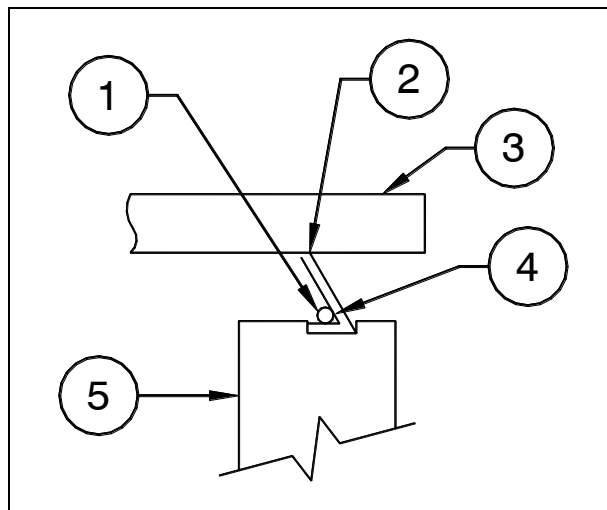

Figure 4.8i
- b. Measure a seal for cutting by laying it in position on the gear mounting surface, where it will be located. The sealing surface must be oriented as shown on the Drive Assembly drawing. Make a square cut on the end of the seal, leaving a slight overlap. Refer to the Assembly drawing and Figure 4.8i.
- d. Referring to Figure 4.8i, set the lip seal in place, except the last 12 inches of one end of the seal, making sure the seal lip is facing in the direction shown on the Drive Assembly drawing. Since bonding will take place within 45 seconds of contact, take care in setting the seal in place.
- g. Apply sealant (bonding agent) to the inside angle of the seal at the splice, for about 3" on both sides of the splice. Then, glue a 4" long piece of wire rope (part no. 88951C) in place, as shown in Figure 4.8i, centered on the splice.